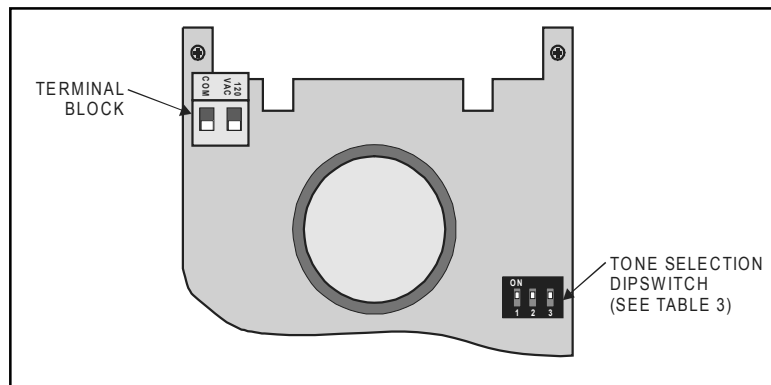

Figure 3. Tone Module PC Board (120V version shown)
6. If using the Cat. No. 108I, set the selected tone. See Table 3 and Figure 3.